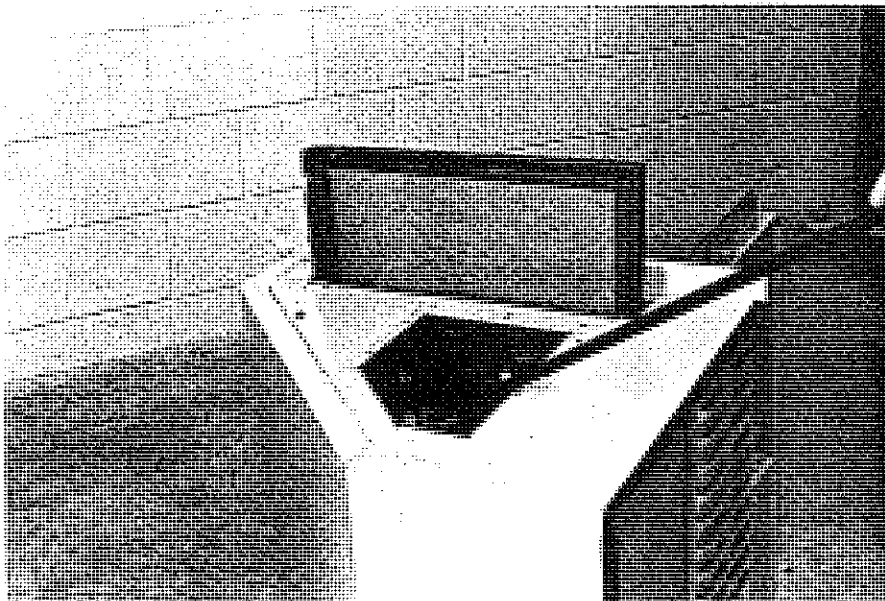
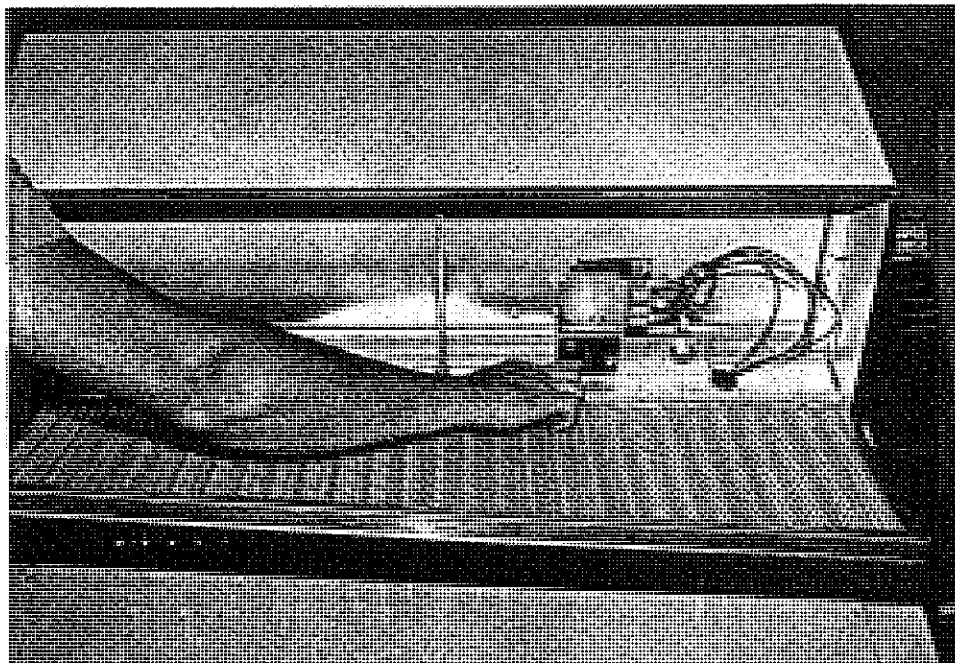

FIGURE 9
FIGURE 10
- 13.) REMOVE FILTER ACCESS AND CONTROL ACCESS PANELS ON SIDE OF INTAKE HOOD OF ECONOMIZER ASSEMBLY. (SEE FIGURE 9) REMOVE MOISTURE ELIMINATOR UNDER INTAKE HOOD OF ECONOMIZER. (SEE FIGURE 10)
- a.) LOCATE THE MINIMUM POSITION POTENTIOMETER ON THE MOTOR (SEE ENCLOSED MANUFACTURERS LITERATURE) LOCATED ABOVE WIRING TERMINALS. (FIGURE 9)
- c.) CYCLE THE MINIMUM POSITION POTENTIOMETER (FACTORY SET FOR 0% FRESH AIR) 0 TO FULL OPEN. (SEE FIGURE 9) THROUGHOUT CHECKOUT PROCEDURE OBSERVE OPERATION OF DAMPER TO INSURE THERE IS FREE, UNOBSTRUCTED OPERATION THROUGH THE ENTIRE RANGE OF DAMPER TRAVEL. THEN ADJUST THE DAMPER MINIMUM OPEN POSITION TO MEET LOCAL CODES OR APPLICATION REQUIREMENTS. (SEE EXAMPLE BELOW)
- d.) LOCATE THE ENTHALPY CONTROL ADJUSTMENT KNOB ON ENTHALPY CONTROL IN ECONOMIZER INTAKE HOOD (FIGURE 10).
- e.) ADJUST THE ENTHALPY CONTROL TO POSITION A,B,C,D TO ACHIEVE THE MAXIMUM COMBINATION OF TEMPERATURE AND HUMIDITY ACCEPTABLE FOR THE INSTALLATION AS PER THE CHART IN MANUFACTURERS ENCLOSED INSTRUCTIONS. (THE SUGGESTED SETTING IS BETWEEN A & B 70°DB @ 55 PERCENT RH. IT IS FURTHER RECOMMENDED TO ALWAYS SET THE CONTROL AT C OR ABOVE. (FIGURE 10)
- e.) SWITCH THE THERMOSTAT FAN CONTROL TO AUTOMATIC AND POSITION THE HEAT COOL SWITCH TO COOL. ADJUST THE THERMOSTAT TEMPERATURE TO ENGAGE THE FIRST STAGE OF COOLING ONLY (Y). THIS WILL CAUSE THE DAMPERS TO MODULATE TO ACHIEVE THE PREVIOUSLY SET MIXED AIR TEMPERATURE PROVIDED OUTSIDE AIR ENTHALPY IS SUFFICIENTLY LOW. IF ENTHALPY IS TOO HIGH FOR ECONOMIZING, LOW ENTHALPY CAN BE SIMULATED BY TEMPORARILY REMOVING AND JUMPING LEADS ON THERMINAL 2 AND 3 OF ENTHALPY CONTROL TOGETHER. THIS WILL ALSO CAUSE THE ECONOMIZER DAMPER TO MODULATE AWAY FROM MINIMUM POSITION (BE SURE TO PROPERLY RECONNECT LEADS AT END OF CHECKOUT PROCEDURE.)